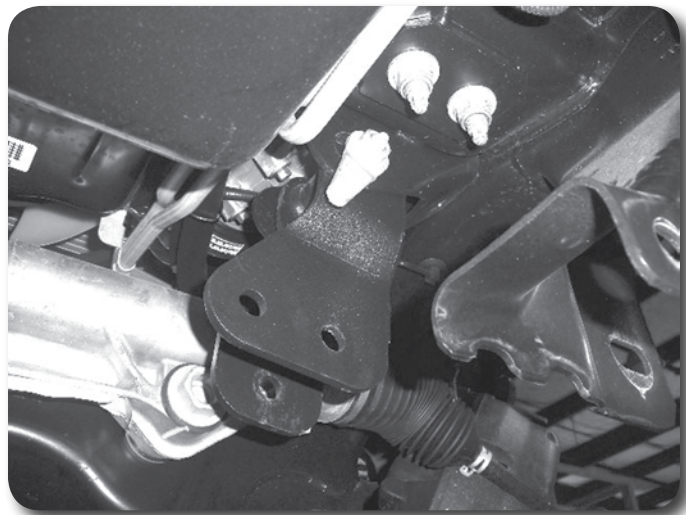

Figure 23
39. Install the new passenger's side differential drop bracket, this bracket has an extra hole on the lower wing (Figure 23) and front driver's side factory differential mounting locations with the factory hardware. The brackets should offset toward the front of the vehicle when properly installed. Leave hardware loose.